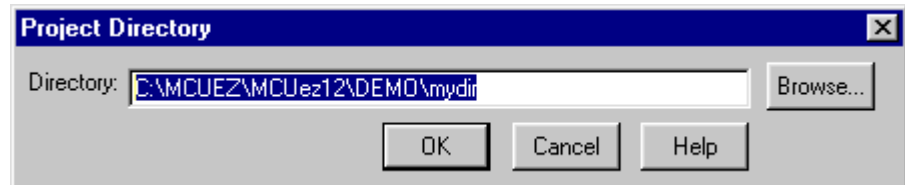

Figure 1-3. Working Project Directory Dialog Box
4. Enter the path for the new project in the edit box. For example, substitute `C:\MCUEZ\MCUez12\DEMO\WMMDS12A` with `C:\MCUEZ\MCUez12\DEMO\mydir` as the example shows in Figure 1-3.